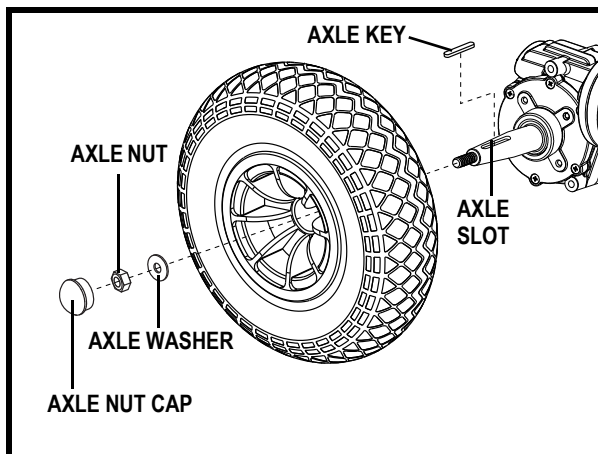
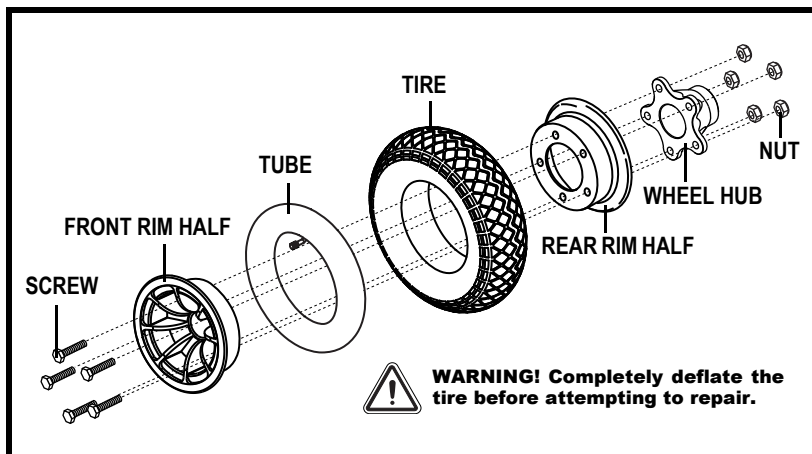

Figure 27. Sparky Drive Wheel
Figure 28. Sparky Drive Wheel Disassembled
4. Remove the axle nut cap, axle nut, and axle washer from the wheel hub. See figure 27.
6. Remove the five (5) Nylock nuts from the inside of the wheel hub.
7. Remove the screws and separate the front and rear rim. See figure 28.
9. Reinstall the screws through the two rim halves and hub. Tighten the five (5) Nylock nuts on the inside of the wheel hub.